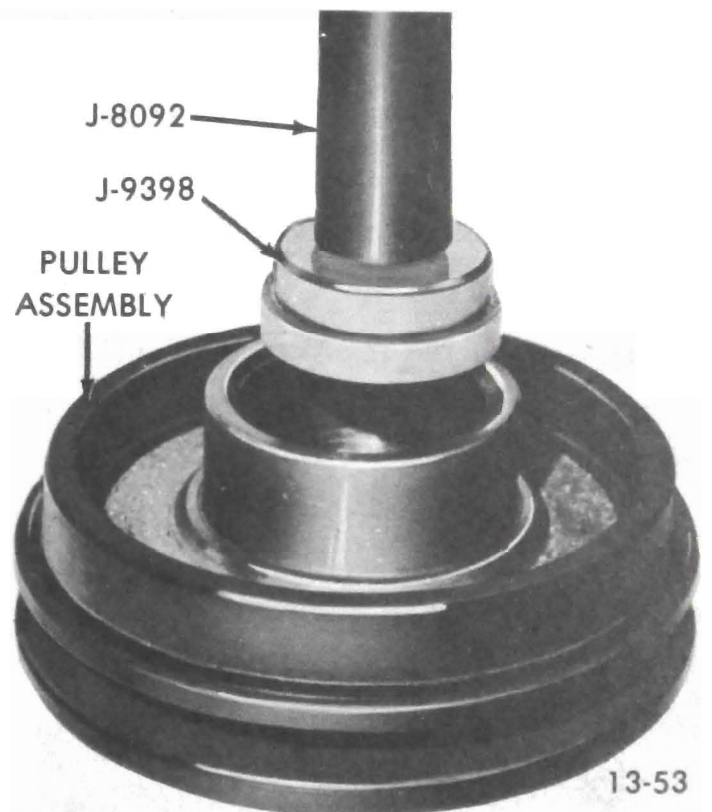

Figure 13-38 Removing Bearing from Pulley Assembly
5. Drive out bearing (see Figure 13-38) by use of puller Pilot (J-9398) and Handle (J-8092).